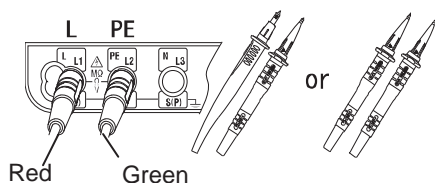

Fig.12
- 2 Insert the Test Leads to the L and PE terminal on KEW6016 respectively as shown in Fig.12.